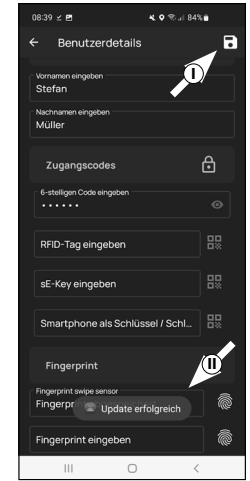

Fig. 17
8 Then tap on Save (I) in the top right-hand corner (Fig. 17). An info box with "Update successful" appears for confirmation (II) (Fig. 17).